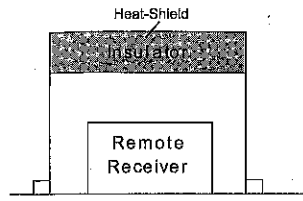

Figure 5
7. In order to prevent the Remote Receiver (fireplace installation only) from overheating, put a heat shield (option item) above the Remote Receiver. See *Figure 5*.